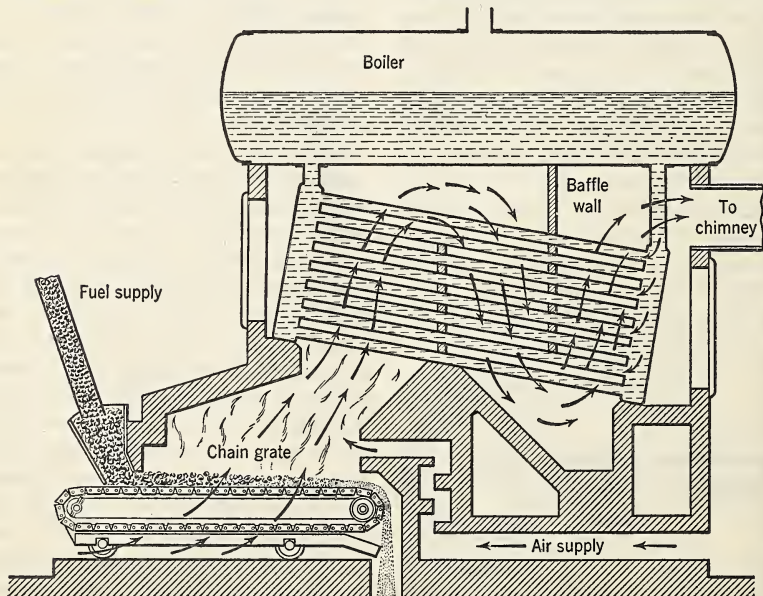

FIG. 376. The automatic stoker saves fuel and eliminates smoke.
1. *Water-tube type*. Such a boiler is often used with stationary engines. The flames play all around a number of pipes filled with water and also against the bottom of the boiler itself. (See Fig. 376.) More heat is absorbed in this way. Some automatic stokers are of the underfeed type and some are an endless screw.
339. How do engineers save fuel? In the diagram of Fig. 376 we see that *baffle walls* are used to prevent the flames and hot gases from going directly up the chimney. They are forced to take a circuitous path which enables the water to absorb more of the heat before they reach the stack. The automatic stoker feeds the coal to the fuel just as fast as it is burned, thus insuring complete combustion. An additional supply of hot air is fed into the flames, too, to aid in making the combustion more complete.
efficiency of about 25%, considerably higher than that of the steam engine. It is very compact and furnishes a high horsepower for its size. The Wright Cyclone engine, of the type used by Howard Hughes in his around-the-world flight, develops 1 H.P. for less than one pound of weight. The fuel, too, takes up very little room. Without the development of the gas engine, the airplane would not be practicable. The gas engine may be started at a moment's notice, and it can be stopped almost instantly. It does not waste fuel when it is stopped. The steam engine cannot be started until the fuel has been burning long enough to produce steam, and the fuel continues to burn after the engine is shut down. There is no need for stoking a gas engine, but the steam engine must be stoked frequently unless equipped with an automatic stoker. (See Fig. 376.)
6. What is the purpose of the baffle walls in the power plant of Fig. 376?